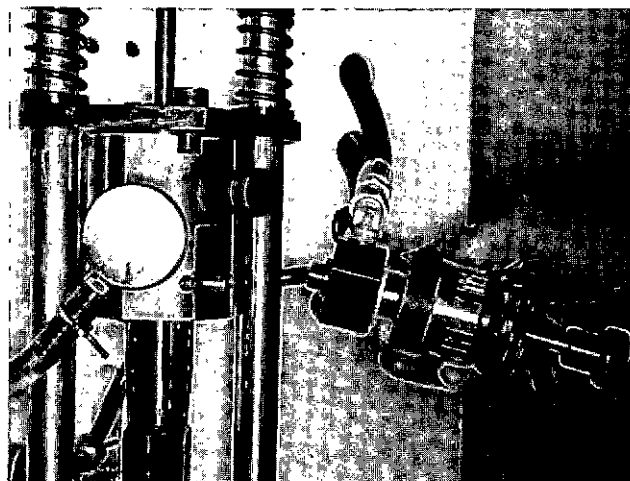

Fig. 4-61, (F60214). ST-708 installed in the inlet connection
13. Assemble the ST-708 Burnishing Tool into the test stand injector inlet connector. Fig. 4-61. Retract the needle by pulling out the small knob. With the needle retracted, the ST-708 Tool may be left in the connector during all test operations.